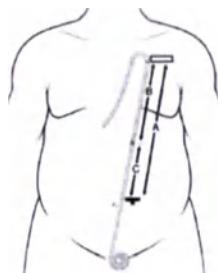

Figure 13
2. Record that distance, "A", in centimeters, between the primary and secondary incision sites. This distance, A, represents the total length needed when combining Upper and Lower Catheters. See Figure 13.
4. Using the provided tape measure, measure the distance between the secondary incision site, Rectangle : , and the chosen union site. Record that distance, in centimeters, as "B". This will be the length needed of the Upper Catheter tubing from the marker ring to the Titanium Connector. See Figure 13.